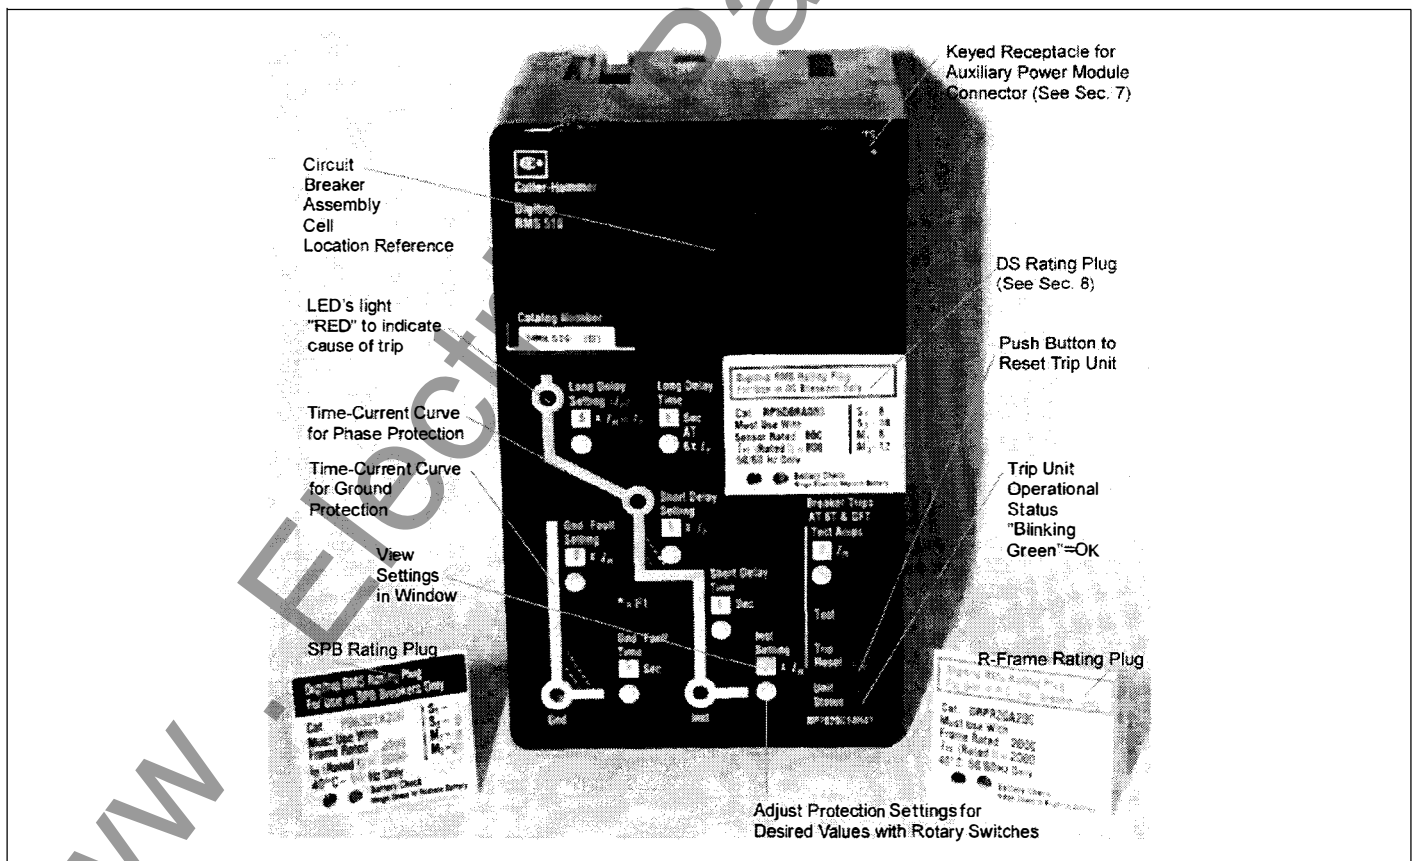
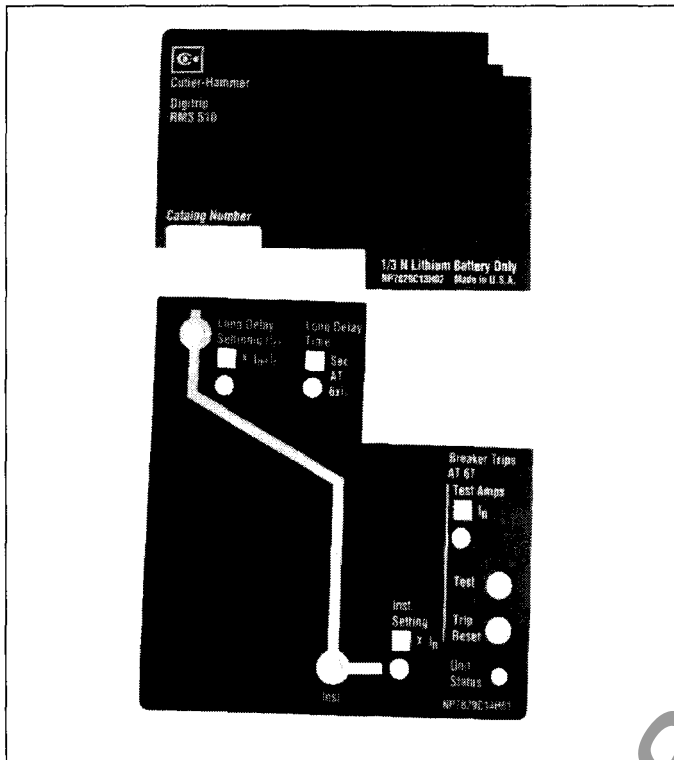
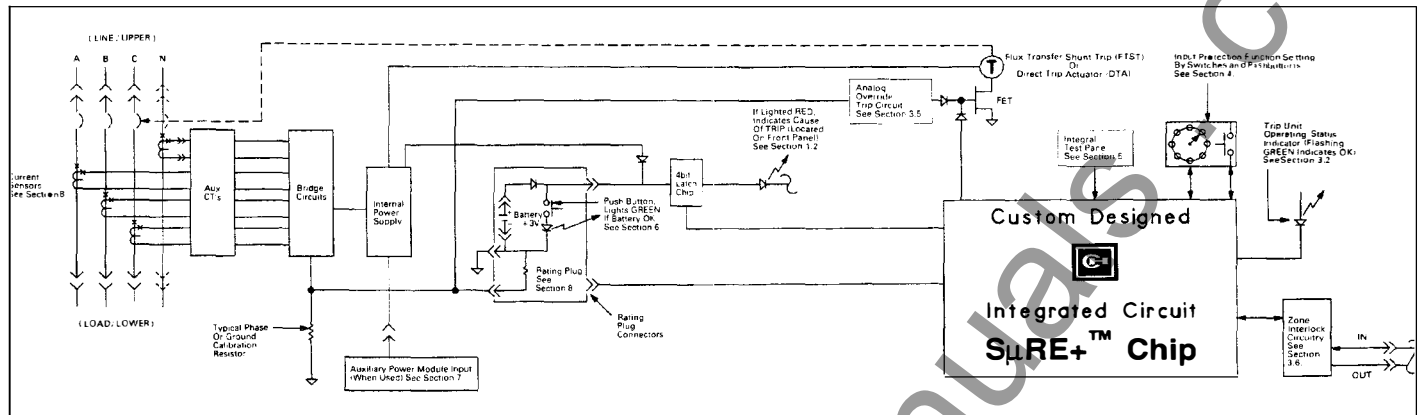
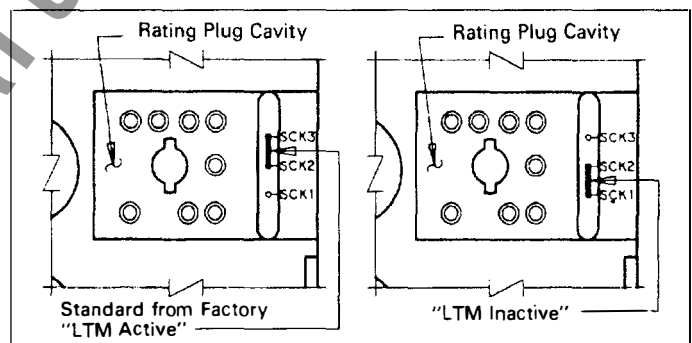

Fig. 1 Digitrip RMS 510 Trip Unit Model LSIG with Rating Plug
Fig. 2.1 Long Time/Instantaneous Protection (LI)
Fig. 3 Digitrip RMS 510 Block Diagram with Breaker Interface
Fig. 4.2.1 Long Time Memory "LTM" Jumper
The Digitrip RMS 510, illustrated in Fig. 1, is a custom application specific integrated circuit based trip unit suitable for use in types DS and DSL low voltage AC power circuit breakers and type SPB Systems Pow-R circuit breakers and Series C[®] R-Frame molded case circuit breakers.
The Digitrip RMS 510 Trip Unit is available in six different types. Each trip unit may be equipped with a maximum of five phase and two ground (time-current) adjustments to meet specific application requirements. The types of protection available for each model include the following, which are illustrated in Figures 2.1 through 2.6:
The Digitrip RMS 510 Trip unit provides three basic functions: Protection, Information and Testing. A typical trip unit and rating plug are illustrated in Fig. 1. Individual product instruction leaflets referenced in Section 9.0 illustrate typical Digitrip RMS Trip Units installed in specific breakers.
The trip unit employs the Cutler-Hammer Inc. custom designed integrated circuit μ PRE + chip, which includes a microcomputer to perform its numeric and logic functions. The principle of operation is described by the block diagram shown in Fig. 3.
The LEDs, shown in Figs. 1 and 2.1-2.6, on the face of the trip unit, light "RED" to indicate the reason for any automatic trip operation. As indicated in Figs. 2.1-2.6, each LED is strategically located in the related segment of the time-current curve depicted on the face of the trip unit. The reason for trip is identified by the segment of the time-current curve where the LED is lighted "RED". Following an automatic trip operation, the back-up battery, continues to supply power to the LEDs as indicated in Figs. 3 and 6. To check the status of the battery, see Section 6.
Push the "Trip Reset" button shown in Fig. 1, to turn "Off" the LEDs following a trip operation.
A green colored LED, as shown in Fig. 1, indicates the operational status of the trip unit. Once the load current through the circuit breaker exceeds approximately 10% of the frame/current sensor rating, the green LED will flash "On" and "Off" once each second, to indicate the trip unit is energized and operating properly.
Zone Selective Interlocking (or Zone Interlocking) is available (see Fig. 3) for Digitrip RMS Trip Units having Short Delay and/or Ground Fault protection. Zone Selective Interlocking provides the fastest possible tripping for faults within the breaker’s zone of protection, and yet also provides positive coordination among all breakers in the system (mains, ties, feeders and downstream breakers) to limit the outage to the affected part of the system only. When Zone Interlocking is enabled, a fault within the breaker’s zone of protection will cause the RMS DIGITRIP trip unit to:
Prior to placing circuit breaker in operation, each trip unit protection setting must be set to the values specified by the engineer responsible for the installation. The number of settings that must be made is determined by the protector model supplied as illustrated in Figs. 2.1 through 2.6. Each setting is made with a rotary switch, using a small screwdriver. The selected setting for each adjustment appears in its respective rectangular viewing window as illustrated in Fig. 1.
In certain applications it may be desirable to disable the LTM function. The LTM function can be disabled by (first opening the breaker and then) removing the Rating Plug (See Figures 1 and 6), and lastly moving the LTM jumper (inside the rating plug cavity, See figure 4.2.1) to its "INACTIVE" connection. (You can enable the LTM function again any time you wish by moving the LTM jumper back to its original "ACTIVE" connection.)
- 2) There is a condition under which the Long Delay Trip LED can erroneously indicate a LDT has occurred, even though the breaker is still closed. This can happen when an overload current momentarily exceeds the Long Delay Current Setting, I_r , so that the Long Delay LED flashes "RED" to indicate the overload condition. Then if, at the very moment when the LED is "ON", the load current would then suddenly drop to a value less than 10% of the breaker frame (or current sensor) rating, the trip unit stops functioning while the "4bit Latch Chip" (See Fig. 3) is set and the LED remains Lighted. If the current would again increase to a value above the Long Delay Current Setting, I_r , and then return to normal, the
LDT will reset itself. You can of course, manually clear the LDT (or any other trip indication) at any time, by pushing the "PUSH TO RESET" button. (See Figure 1.)